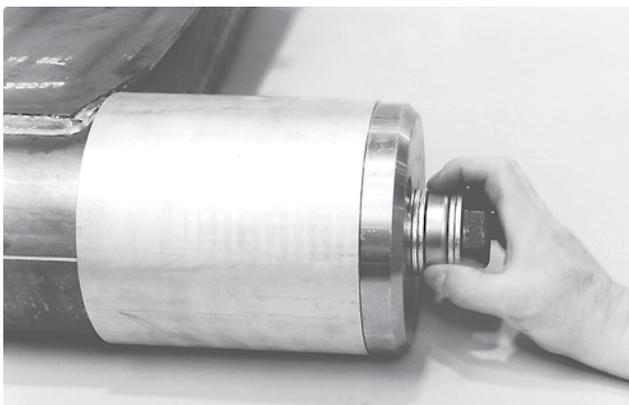

Figure 25: Ensure thrust bearing is free to turn
11. **Ensure** tool rests squarely on the bushing tube (Figure 25).
NOTICE The thrust bearing needs to be free to turn to prevent binding or damage to the threads of the hex head bolt during the removal process (Figure 25).